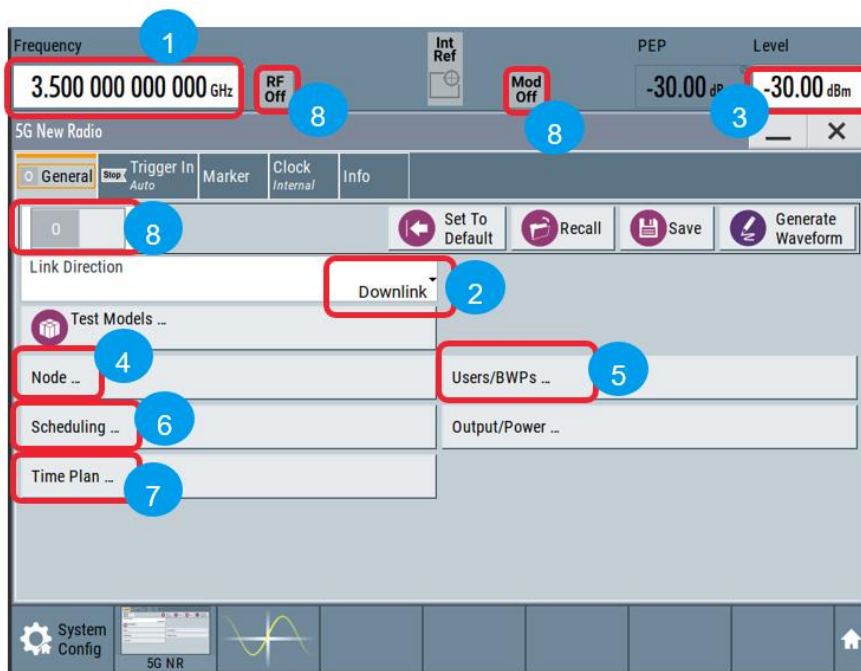
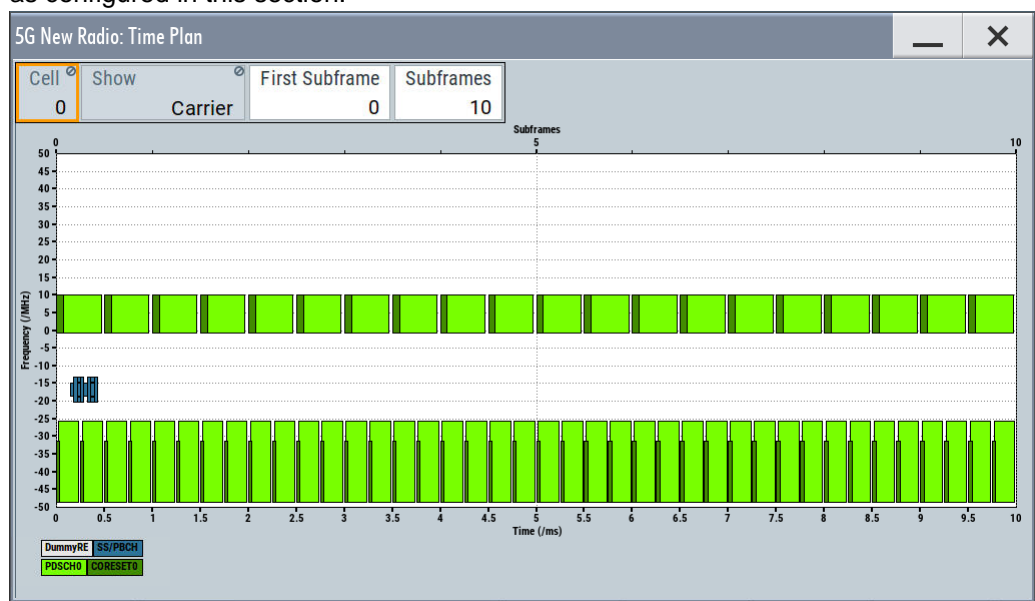

Fig. 2-1: 5G NR main configuration window on the SMW
Fig. 2-7: Downlink signal parameter setting as visualized on the Time Plan window
Fig. 2-1 shows the main configuration window of the 5G NR physical layer baseband signal generation. The step numbers are marked in correct order in the figure to configure the physical layer downlink parameters. Follow the numerical sequence from Fig. 2-1 and the configuration description is listed below:
5. Users/ BWPs configuration from Fig. 2-1
6. Now that there are two BWPs, both needs to be configured separately from the Scheduling window in Fig. 2-1. The first BWP is indicated with 0 and the second BWP is associated 1 in Fig. 2-6.
7. The time plan window (in Fig. 2-1) depicts a graphical overview of the configured physical layer parameters. Fig. 2-7 shows a signal with two BWPs with different SCSs as configured in this section.
8. Switch ON the Baseband signal, Modulator and RF using the buttons as marked on Fig. 2-1 .
Fig. 2-1 shows the measurement display of the 5G FR1 signal at 3.5 GHz. The auto EVM can be selected to optimize the analysis of the signal. The EVM for PDSCH QPSK is 0.62% and PDSCH 64QAM is 0.62%.